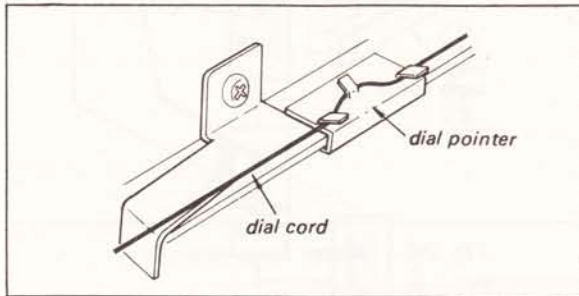

Fig 2-7. Dial pointer installation
4. Put the dial pointer on the cord as shown in Fig. 2-7, and tune the set to the local fm station. Move the dial pointer to the position where the dial indication coincides with the local station carrier frequency.